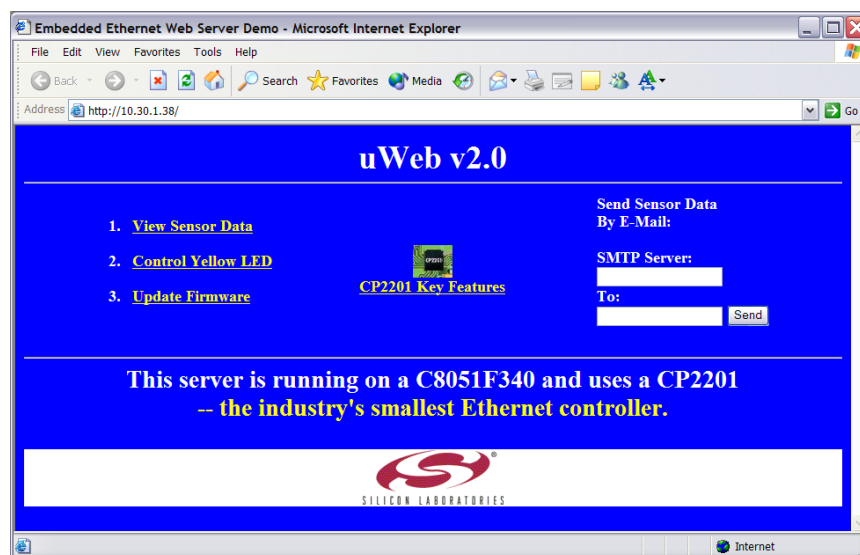

Figure 4. uWeb-v2.0 Home Page
3. The default web browser should launch and display the home page served by the embedded web server. The same result can be achieved by typing the IP address of the embedded web server into the address bar of a web browser. Figure 4 shows a screenshot of the uWeb-v2.0 home page.